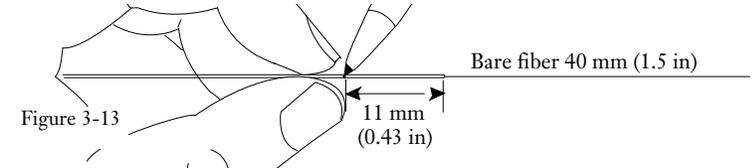

Figure 3-13
3.4-4 Mark each buffer 11 mm (0.43 in) back from the strip point with a permanent ink marker (Figure 3-13).